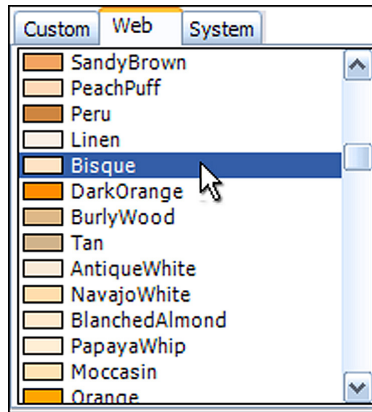

Figure 12: BackColor
- In the Edit Window select the menuStrip1 and in the Properties Window select 'BackColor' and choose the Web color NavahoWhite. (Figure 12: BackColor)